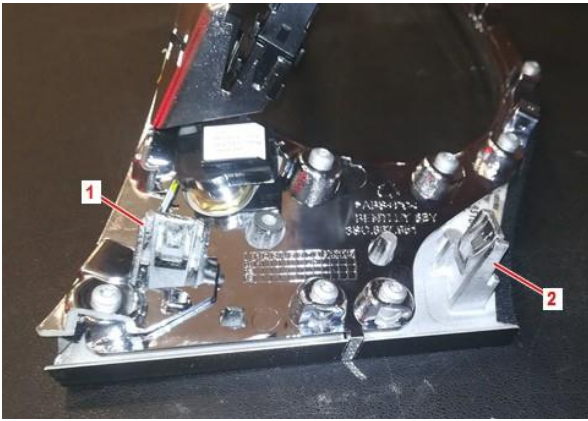

Figure 16
i Note. The locator pin (1) is for adjusting the bottom of the fascia panel and locator pin (2) is for adjusting the top of the fascia panel. All other locator pins are not affected. See Figure 16.